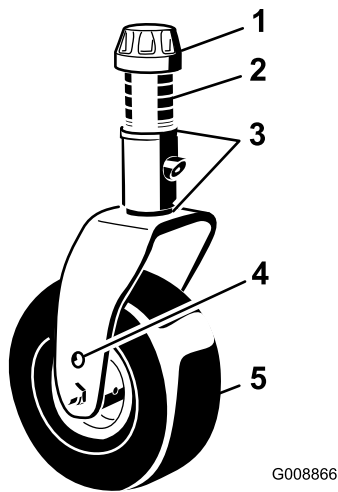
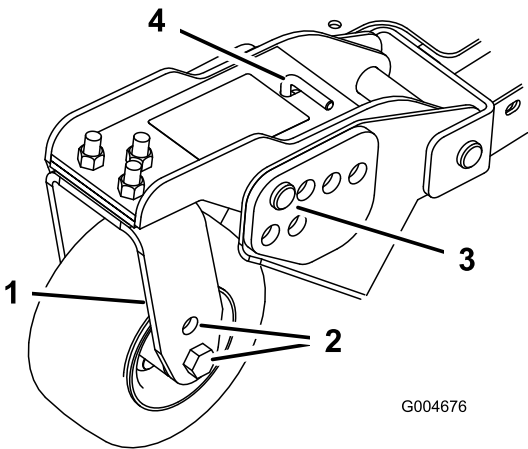
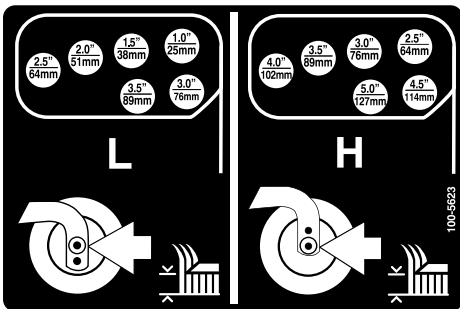

Figure 20
Figure 22
Figure 23
1. Position the caster-wheel axles in the same holes in all of the caster forks (Figure 20 and Figure 22).
2. Remove the tensioning cap from the spindle shaft and slide the spindle out of the caster arm (Figure 20).
5. Remove the hairpin cotter and clevis pins from the caster-pivot arms (Figure 22).
6. Rotate the tension rod to raise or lower the pivot arm until the holes are aligned with the selected height-of-cut bracket holes in the mower-deck frame (Figure 22 and Figure 23).